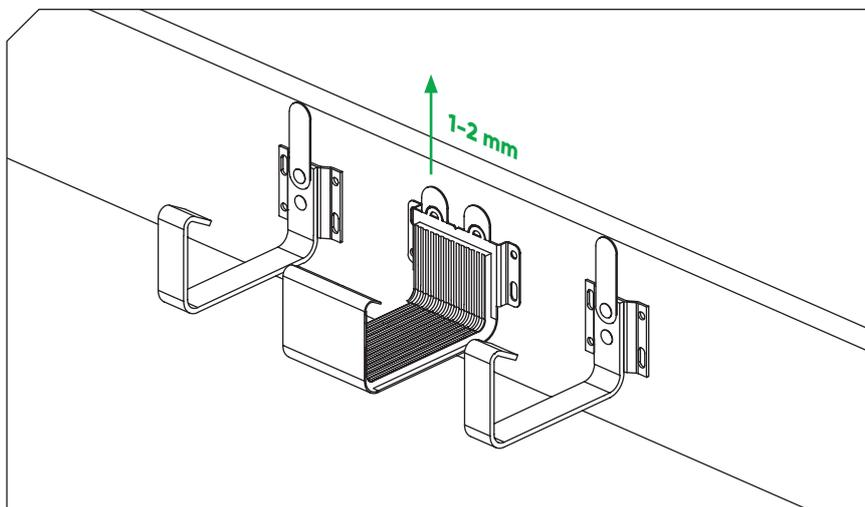

Figure 11
- 4.3 The connector should be screwed to the fascia board higher than the adjacent brackets (the upper surface of the gasket in the connector should be approximately **1-2 mm** above the gutter bottom surface – **Figure 11**)